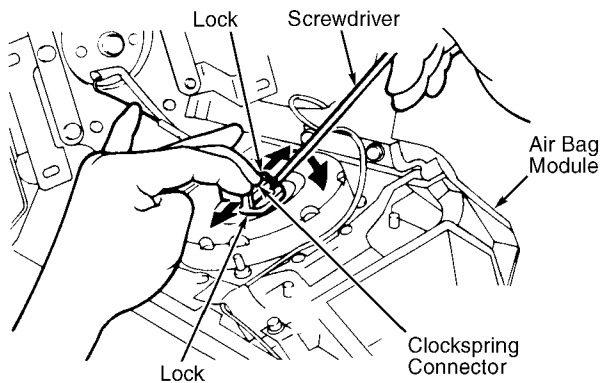

Fig. 5: Disconnecting Clockspring Connector (3000GT)
2) When disconnecting clock spring connector from air bag module, press the air bag's lock toward the outer side to spread it open. Using a screwdriver, pry gently to remove the connector. See Fig. 5. Remove air bag module. Store air bag module, with pad cover face up, in a clean, dry place.